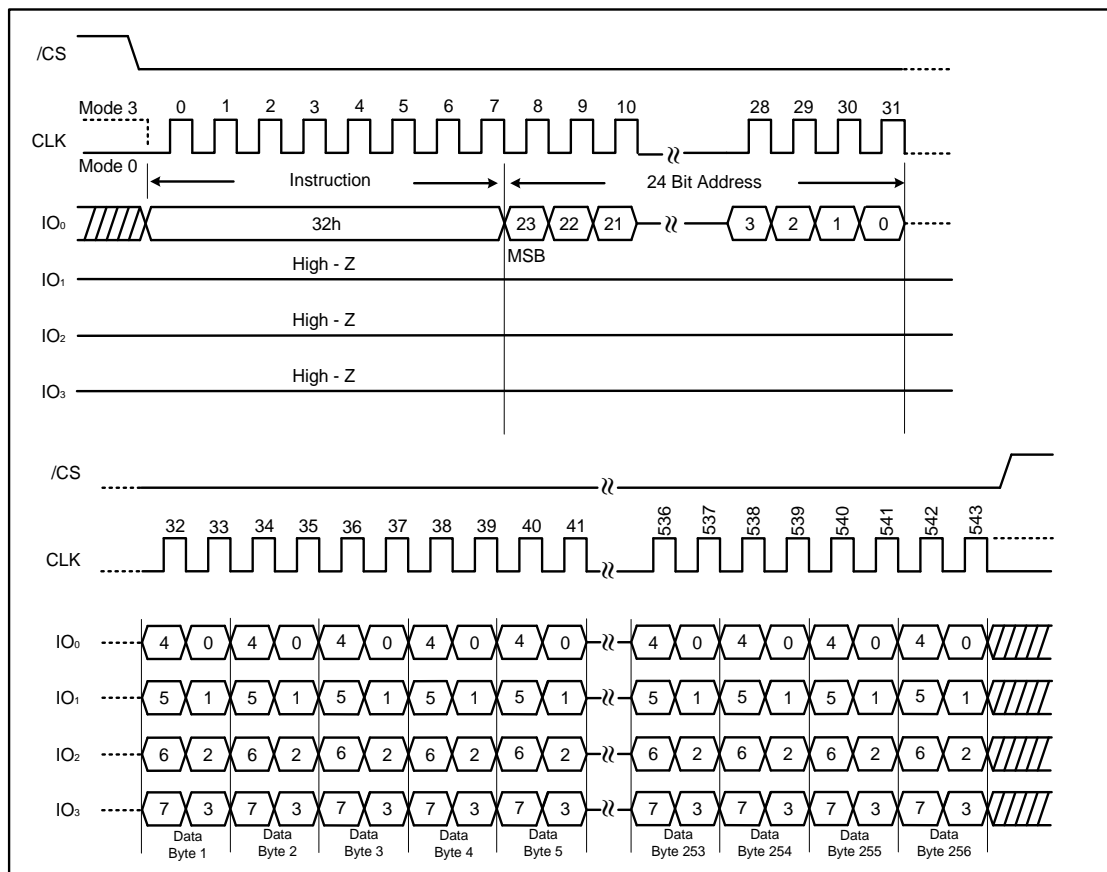

Figure 25. Quad Input Page Program Instruction (SPI Mode only)
To use Quad Input Page Program the Quad Enable (QE) bit in Status Register-2 must be set to 1. A Write Enable instruction must be executed before the device will accept the Quad Input Page Program instruction (Status Register-1, WEL=1). The instruction is initiated by driving the /CS pin low then shifting the instruction code "32h" followed by a 24-bit address (A23-A0) and at least one data byte, into the IO pins. The /CS pin must be held low for the entire length of the instruction while data is being sent to the device. All other functions of Quad Input Page Program are identical to standard Page Program. The Quad Input Page Program instruction sequence is shown in Figure 25.